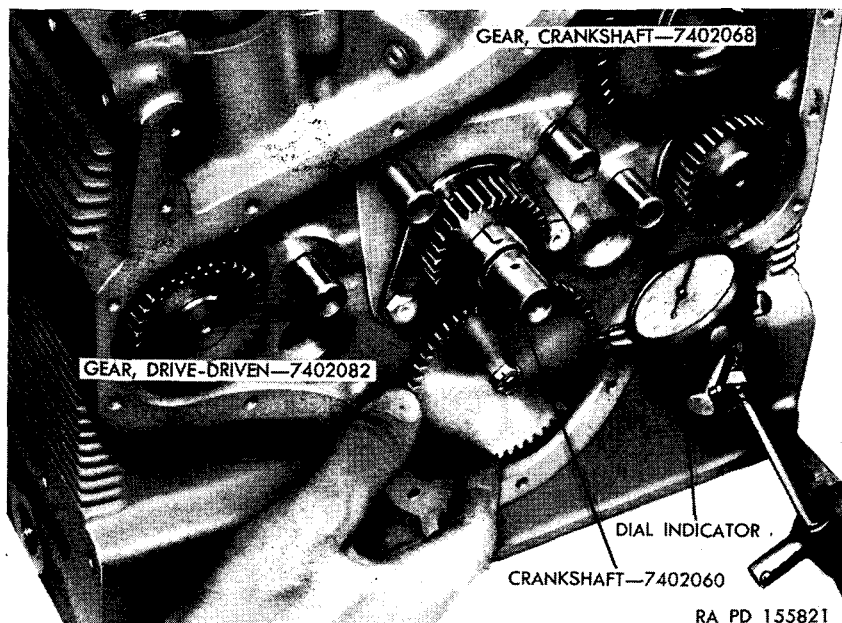

Figure 101. Checking back lash between oil-pump drive-driven gear and crankshaft gear.
f. Check gear back lash (fig. 101). If back lash is too tight, less than 0.002, remove drive-driven gear and adjust oil pump.